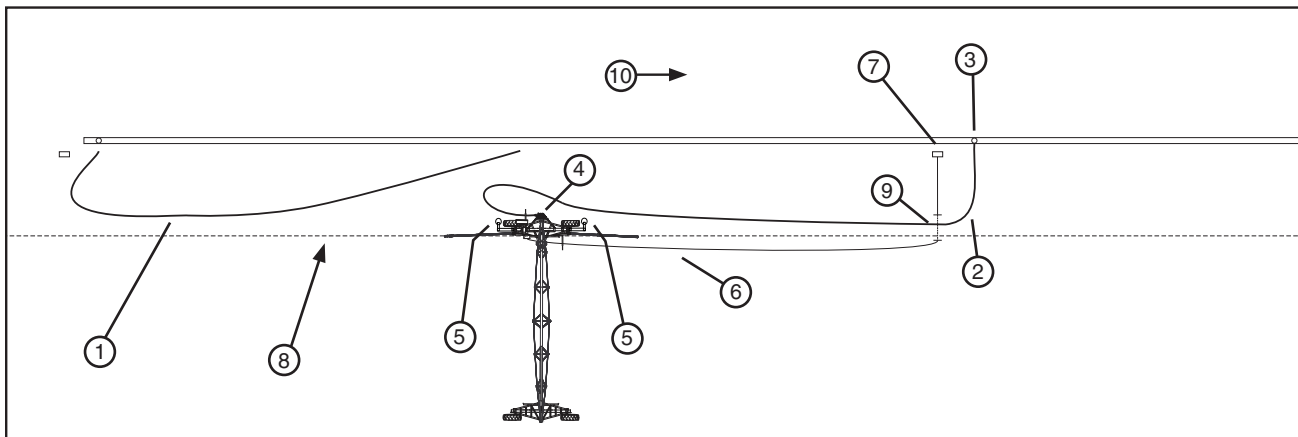

Figure 52-1 1. First Hose 4. Swivel Inlet 7. Power Pedestal 10. Direction of Travel
- If more than one hose is being used, disconnect first hose from swivel inlet. Connect second hose to next pipeline shut off valve, position second hose, connect and secure to swivel inlet. See figure 52-1.
- (c) Position the electric cord far enough away from the hose, so that the hose will not drag over it. To prevent interference between the electric cord, cart tires, furrow guidance system and hose, bury the electric cord in the area where interference will occur or when applicable, position the electric cord over the top of hose. See figure 52-1.